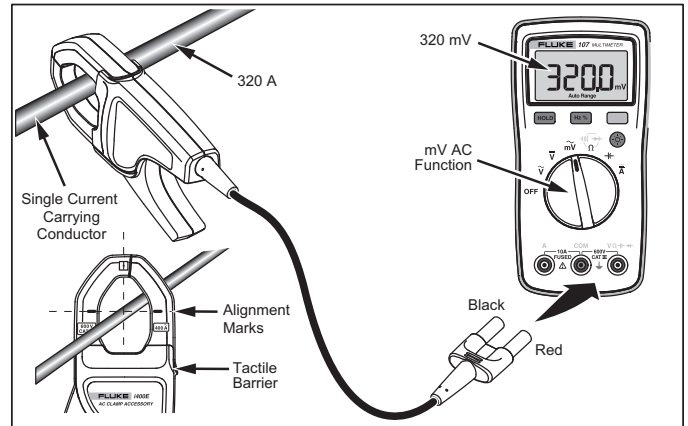

Figure 1. i400E Setup
To use the Product (see Figure 1):
3. Fix the Product around the current-carrying conductor to be measured. Make sure the jaws are tightly closed around the conductor. The Product is designed for highest accuracy when the conductor is centered on the jaw's alignment marks, see Figure 1.
To avoid shock or personal injury, keep fingers behind the tactile barrier, see Figure 1.